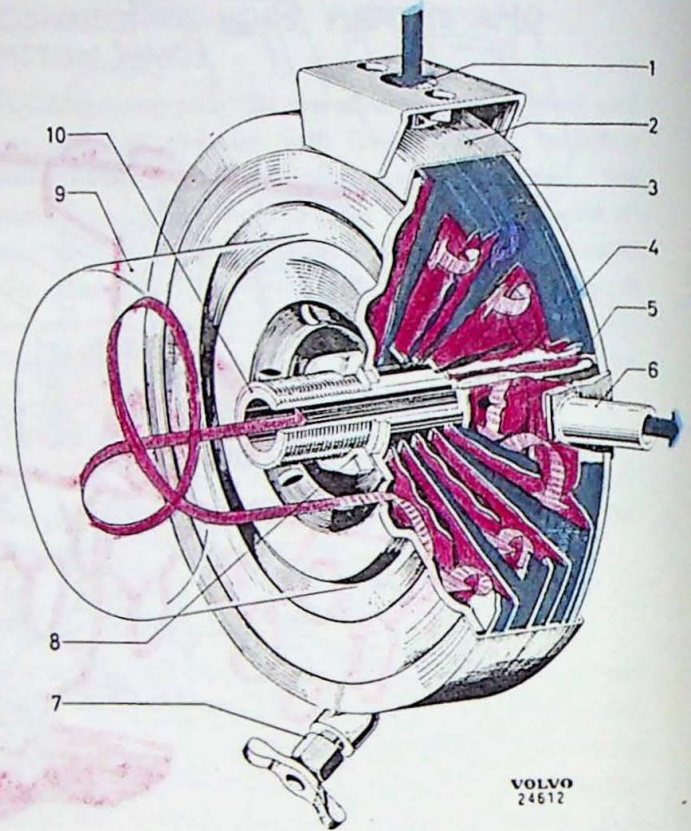

Fig. 1-6. Oil cooler
(see also 10, Fig. 1-6)
The oil cooler (Fig. 1-6) is fitted between the oil cleaner and the cylinder block and consists of an inner part for the oil which is surrounded by a cooling jacket. The engine cooling water is taken through the cooling jacket. When the oil passes through the cooler on its way to the oil cleaner, part of the heat from the oil is conducted away by the cooling water. The cooling water cannot go the nearest way from the inlet (1) to the outlet (6) but is forced to circulate round the oil cooler by means of the stop plates (5). The oil is pressed through the pairs of disks one after the other due to the stop plates (4) and then passes out finally to the oil cleaner.